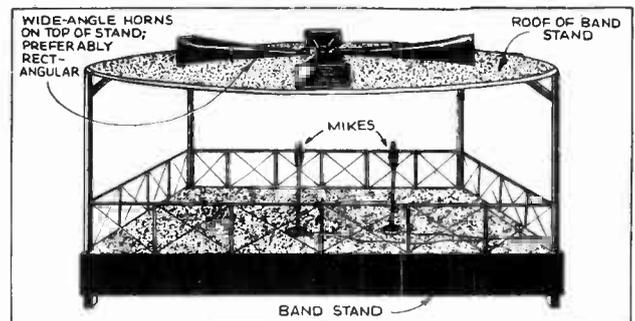

Fig. 4. A typical park bandstand's arrangement of speakers is shown above.
Figure 4 is the installation of speak-
Fig. 4. (A) Showing symmetry of circuit and derivation of hum-cancelling bridge circuits. (B) Showing complex hum-balancing and voltage-balancing circuits. (C) Hum-balancing filter network. (D) Showing how hum is balanced in push-pull output transformer.
- (1) Tricky circuit.
- (2) Instability.
- (3) High voltages required.
- (4) Critical hum-balancing adjustments necessary.
- (5) Variations of characteristics in similar-type tubes affect voltage distribution within the amplifier.